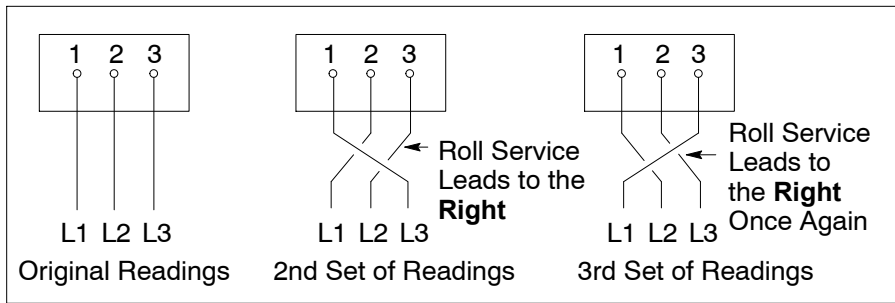

Figure 1
- A. When three-phase service is established to a pump, PG&E's crew will assist in checking for satisfactory pump motor performance if the customer or his representative is present. The construction crew should take "clamp-on" ammeter readings at the service head, or the customer or his representative can take the readings at the motor control box. If the reading on the "high" phase is more than 10% higher than the reading on the "low" phase, then the phases should be rolled to get the readings as close as possible (see Figure 1 below). The set of readings that gives the lowest difference is the connection to be retained. It is possible that none of the other readings will be any better. Record all readings.